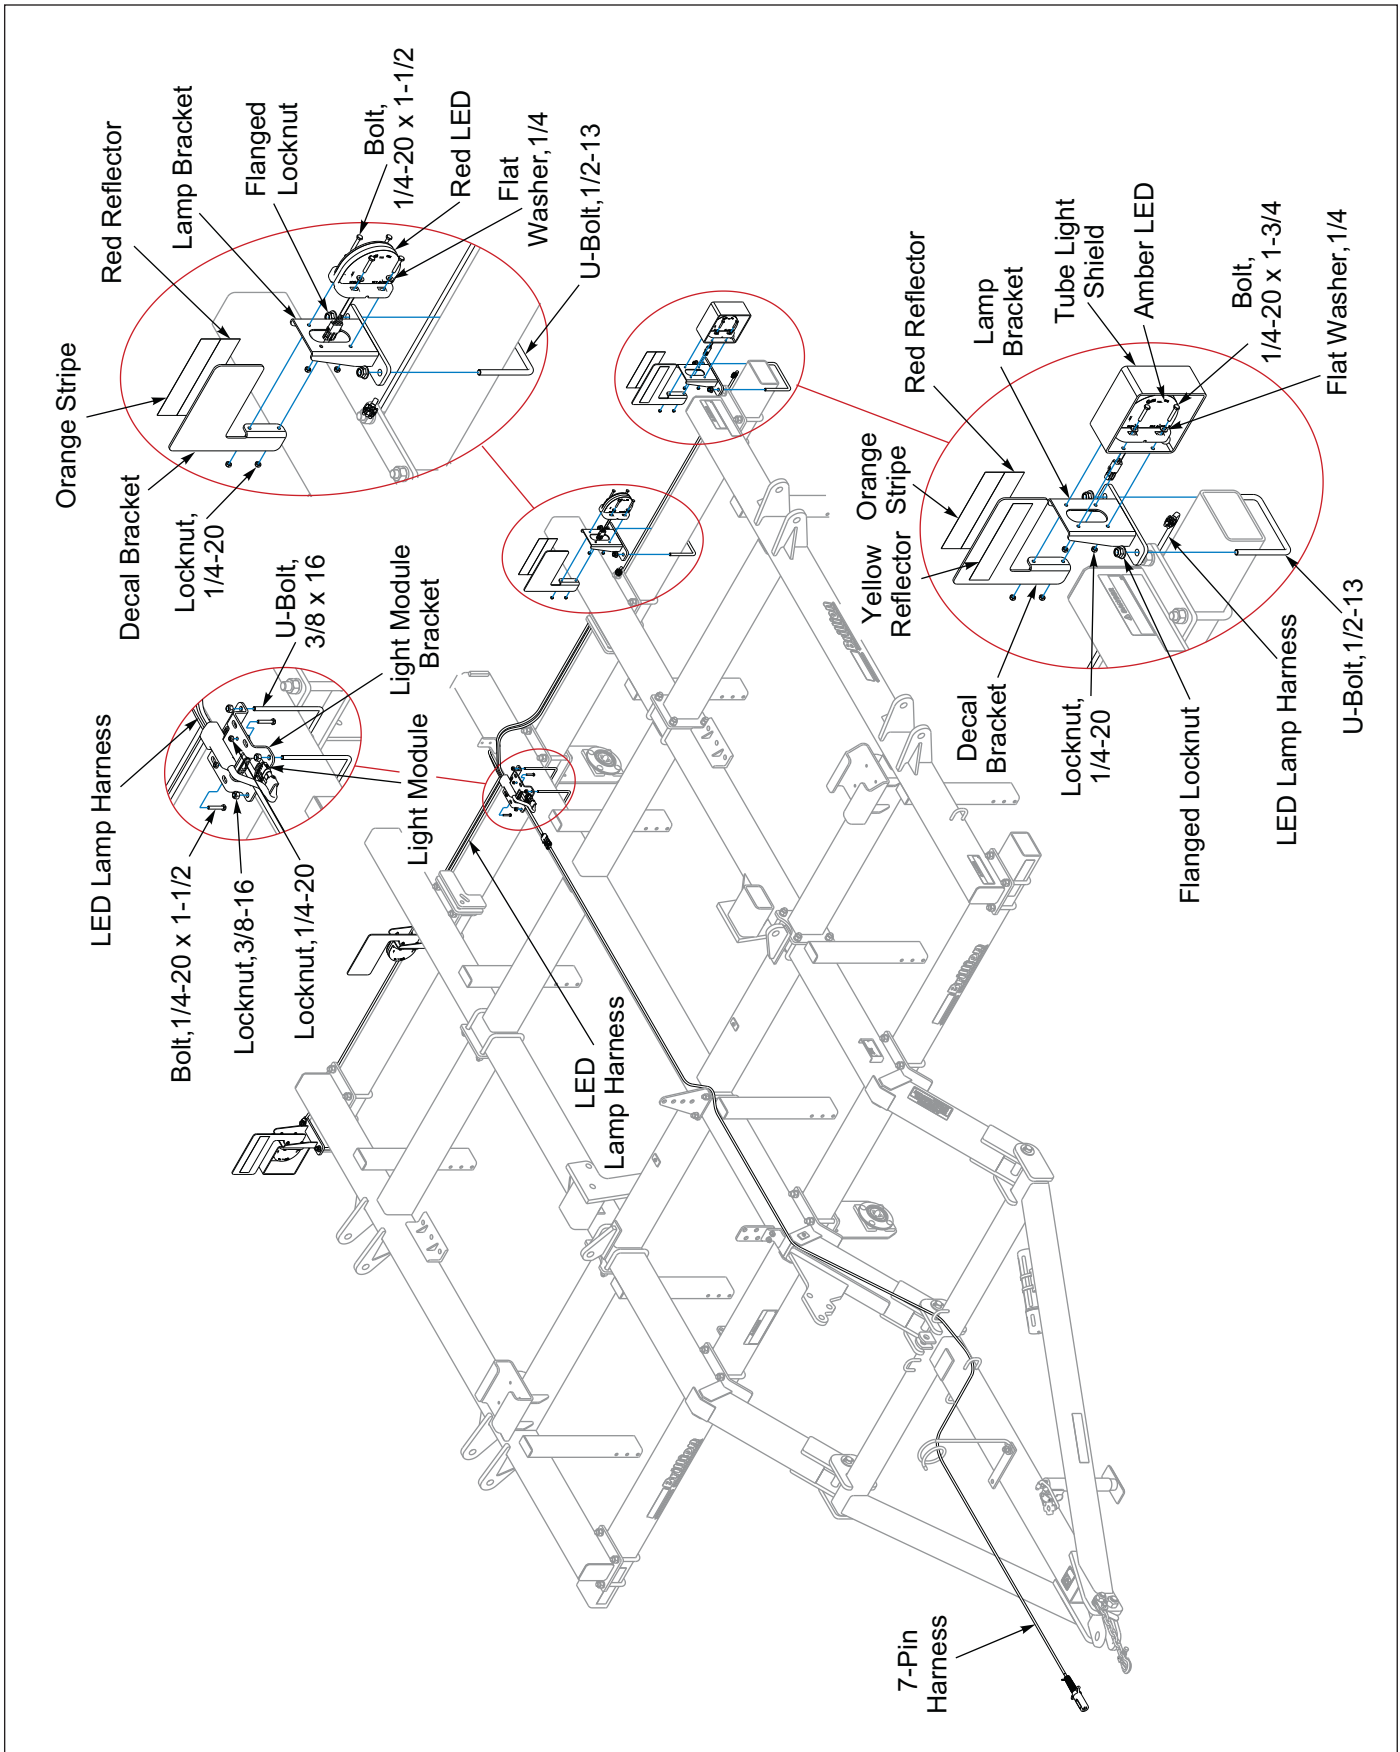

Figure 2-40: LED Lamp Installation
1. Install a Lamp Bracket approximately 46" from center line on each side of the rear frame tube using 1/2-13 U-Bolts and Flanged Locknuts. **See Figure 2-40.**
3. Install a Lamp Bracket flush with the rear frame tube end using 1/2-13 U-Bolts and Flanged Locknuts. **See Figure 2-40.**